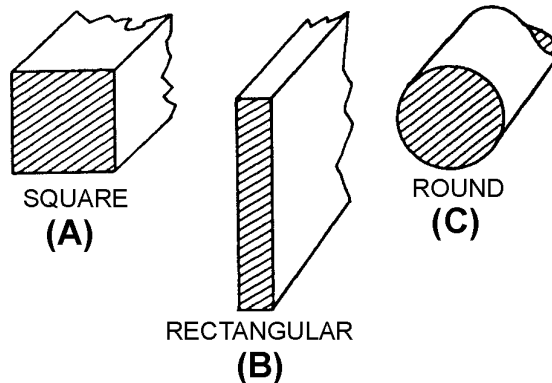

Figure 1-1.—Cross-sectional areas of conductors.
The square mil is a unit of measurement used to determine the cross-sectional area of a square or rectangular conductor (views A and B of figure 1-1). A square mil is defined as the area of a square, the sides of which are each 1 mil. To obtain the cross-sectional area of a square conductor, multiply the dimension of any side of the square by itself. For example, assume that you have a square conductor with a side dimension of 3 mils. Multiply 3 mils by itself (3 mils  $\times$  3 mils). This gives you a cross-sectional area of 9 square mils.
The circular mil is the standard unit of measurement of a round wire cross-sectional area (view C of figure 1-1). This unit of measurement is found in American and English wire tables. The diameter of a round conductor (wire) used to conduct electricity may be only a fraction of an inch. Therefore, it is convenient to express this diameter in mils to avoid using decimals. For example, the diameter of a wire is expressed as 25 mils instead of 0.025 inch. A circular mil is the area of a circle having a diameter of 1 mil, as shown in view B of figure 1-2. The area in circular mils of a round conductor is obtained by squaring the diameter, measured in mils. Thus, a wire having a diameter of 25 mils has an area of  $25^2$ , or 625 circular mils. To determine the number of square mils in the same conductor, apply the conventional formula for determining the area of a circle ( $A = \pi r^2$ ). In this formula, A (area) is the unknown and is equal to the cross-sectional area in square mils,  $\pi$  is the constant 3.14, and r is the radius of the circle, or half the diameter (D). Through substitution,  $A = 3.14$ , and  $(12.5)^2$ ; therefore,  $3.14 \times 156.25 = 490.625$